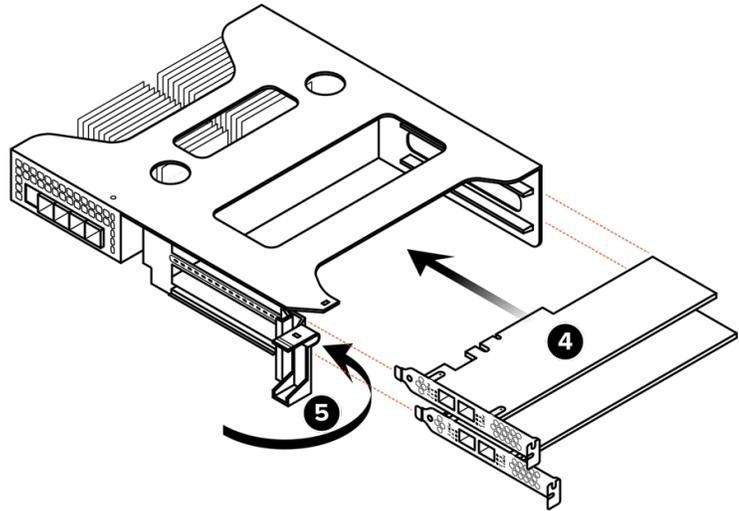

Figure 13-15. Installing PCIe Cards Into Riser 0
4. On the new riser 0, carefully reinstall the PCIe cards, first in slot 1 (the bottom slot) and then in slot 0 (the top slot). Make sure that each card is fully seated in the slot and that its front panel is flush with the front panel of the riser. See Figure 13-15.